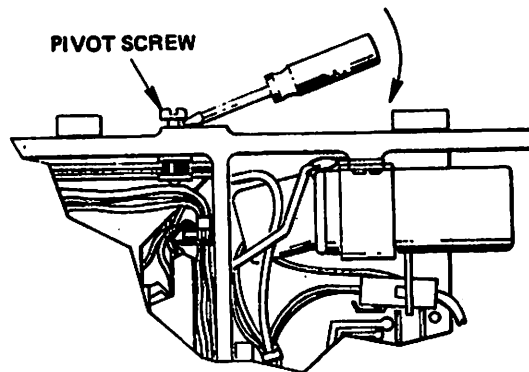

FIGURE 1 CARTRIDGE GUIDE REMOVAL
- c. Pull up on the upper pivot cap screw until the shoulder contacts the base casting (Ref. Figure 1). Push up on the cartridge guide until the lower pivot clears the casting.